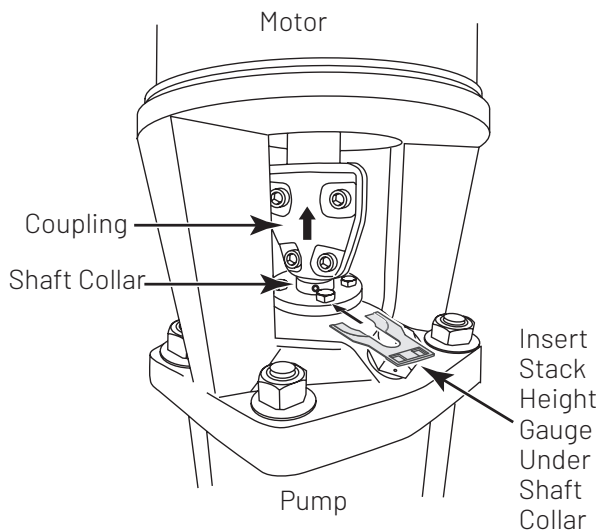

Figure 6 – Stack Height Adjustment Tool
3. Remove the coupling guards (54).
4. Remove the socket head screws (73) and the coupling halves (44) from the shaft (37). See Fig. 6.
12. **BVM(I/X)1–BVM(I/X)20:** Reinstall the shaft pin (72) if your pump has one. Raise the height of the pump shaft by using the shaft pin (72) as a lift point (you may have to put a block under the pin and lift with a flat screwdriver). Insert the stack height adjustment tool (see Fig. 6) in below the shaft collar and let the shaft collar rest on it.
BVM(I/X)33–BVM(X)90: Pick up the shaft (if necessary, temporarily reinstall the coupling to provide a grip to lift by) and insert the stack height adjustment tool (see Fig. 6) below the shaft collar. Let the shaft collar rest on it.